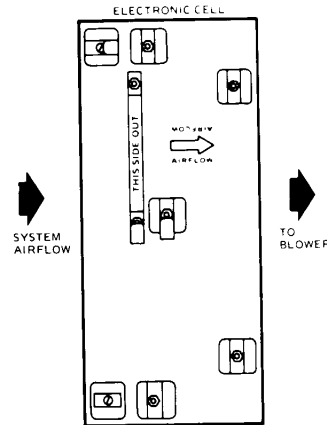

FIGURE 6 – CORRECT CELL ORIENTATION IN AutoClean
2. Insert the electronic cells into the cabinet with THIS SIDE OUT label facing the door opening. Make certain the arrow stamped on the cell points downstream. See Fig. 6.